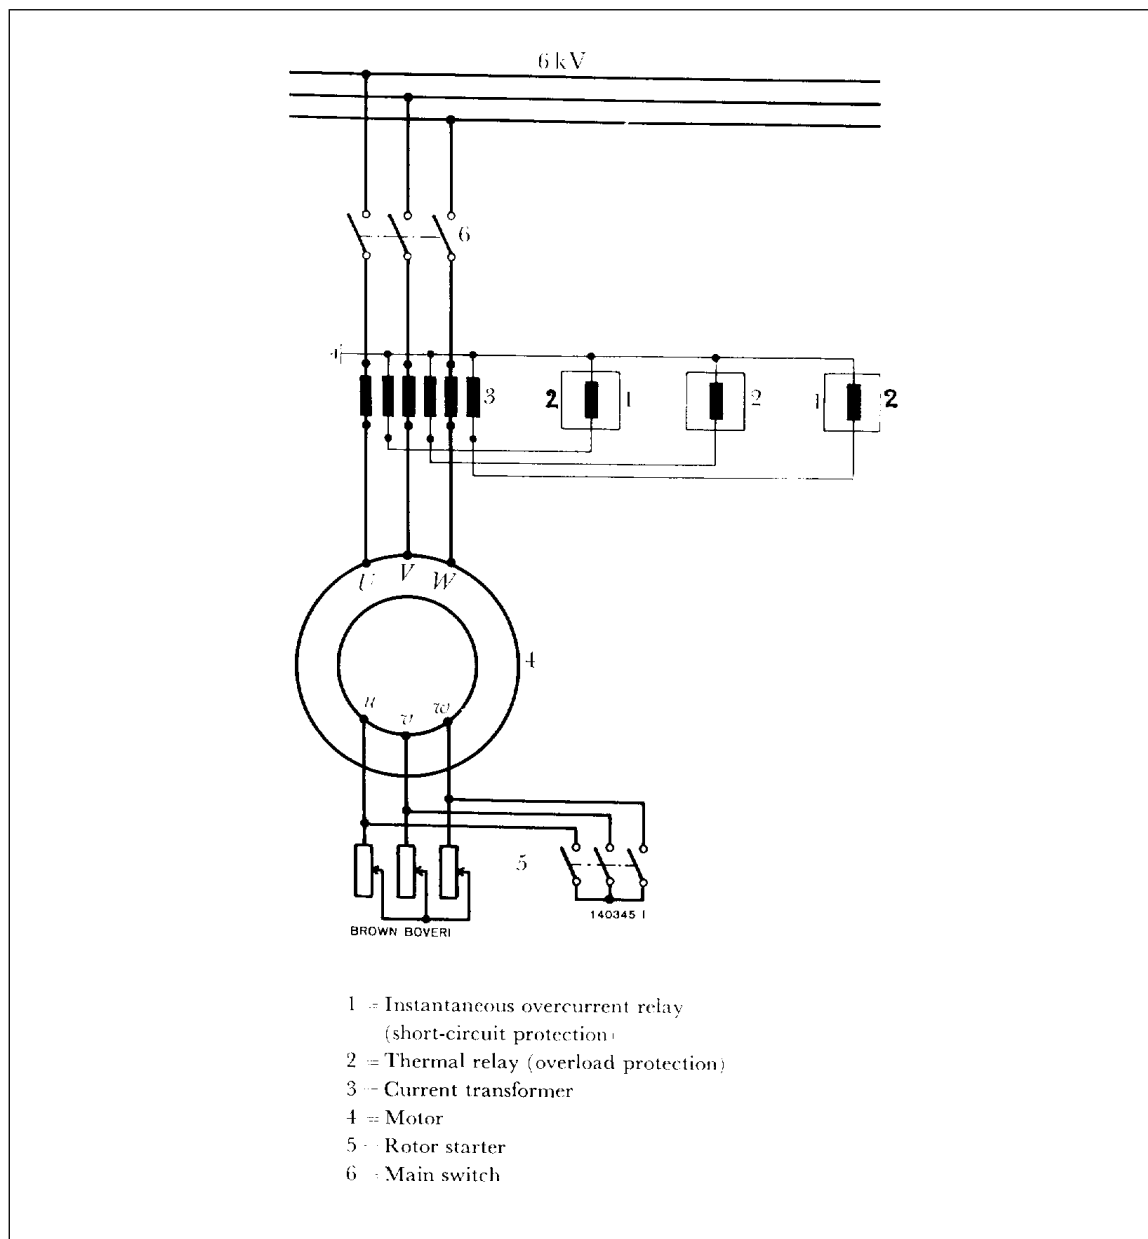

Fig. 8. Simple protection of a relatively large high-voltage motor.
**Single Large Motor Operation (500 hp and over).** If one large motor is being operated directly from an individual wye-delta or delta-wye transformer, a third overload relay is recommended (Fig. 8).